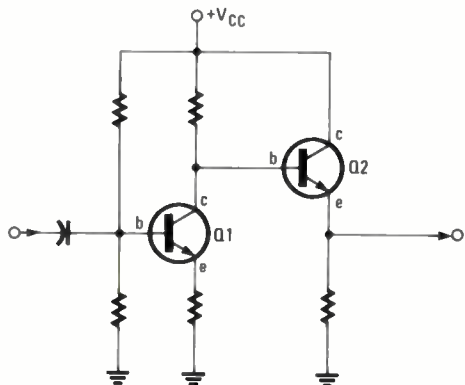

Fig. 18—This circuit combines a direct-coupled amplifier (Q1) with an emitter-follower (Q2) output.
46. (power) The emitter follower is widely used to increase the power level of a signal. It is also used for impedance matching where a high Z_o must drive a low value of load resistance. Figure 18 shows how an emitter follower is used with a common-emitter stage. The combined circuit provides both voltage and power gain.
The common-emitter amplifier and emitter follower in Fig. 18 are _____ coupled.